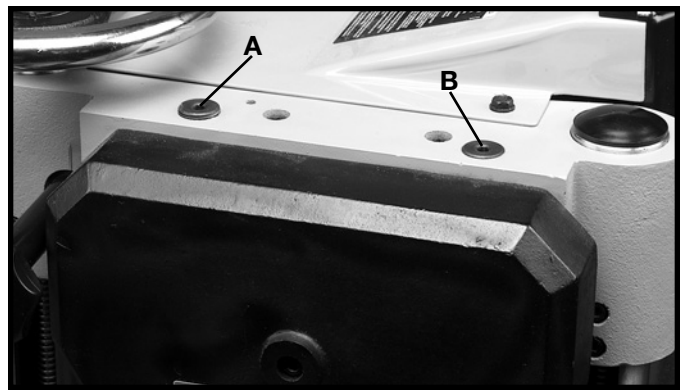

Fig. 46
To adjust the spring tension of the infeed roller, turn two screws, one of which is shown at (A) Fig. 46. The other screw is located on the opposite side of the machine. A good starting point to use in setting the spring tension of the infeed roller is to adjust the two screws (A) until there are **FOUR** threads showing above the table casting. To increase or decrease the spring tension further, adjust screws (A).
To adjust the spring tension of the outfeed roller, turn two screws, one of which is shown at (B) Fig. 46. The other screw is located on the opposite side of the machine. A good starting point to use in setting the spring tension of the outfeed roller is to adjust the two screws (B) until there is **ONE** thread showing above the table casting. To increase or decrease the spring tension further, adjust screws (B).